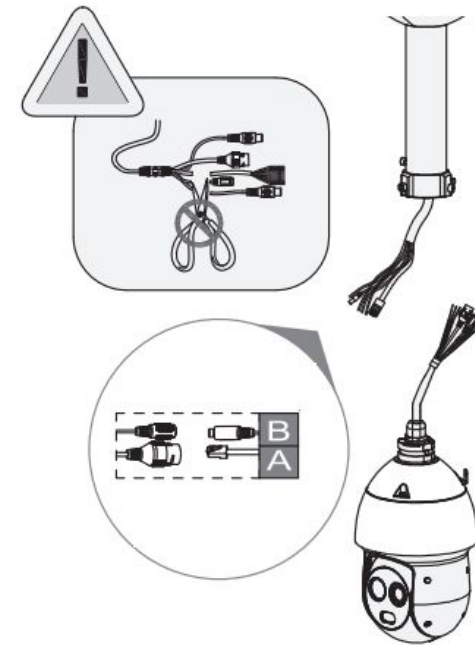

Figure 2-7
Step 3 Thread the wires neatly through the extension pole, connect the necessary wiring and then install the camera to the bottom of the pole. See Figure 2-7.